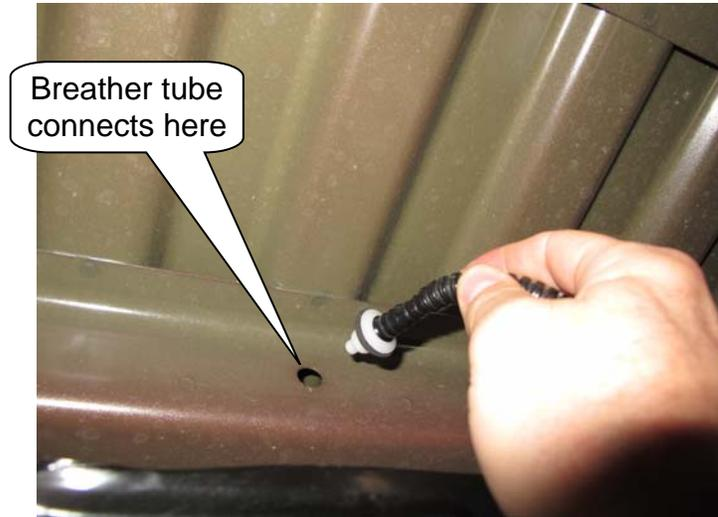

Figure 3
b. If the breather tube is not connected but can easily reach the bed rail connection hole and does NOT have a cap fitted to it (see Figure 3):
b1. Connect the breather tube to the bed rail connection hole (see Figure 3).